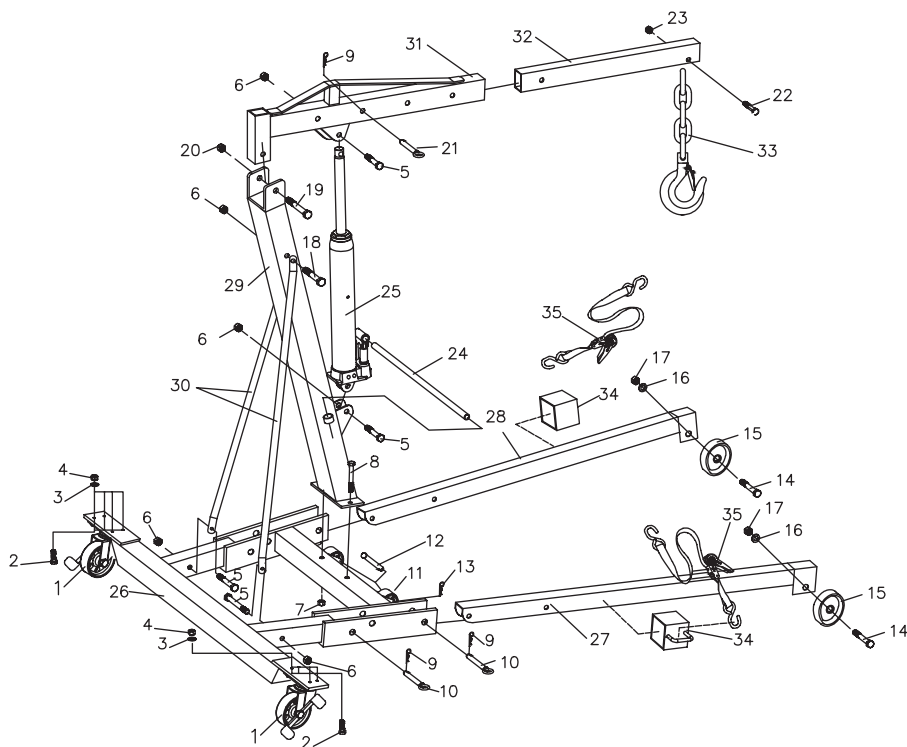

Fig. 3 - Assembly Illustration
2. Remove forward most lock pin (Ref. No. 10 in figure 3) from each leg extension.
4. Reinstall lock pin (Ref. No. 10 in figure 3) into middle hole on base frame leg connection.